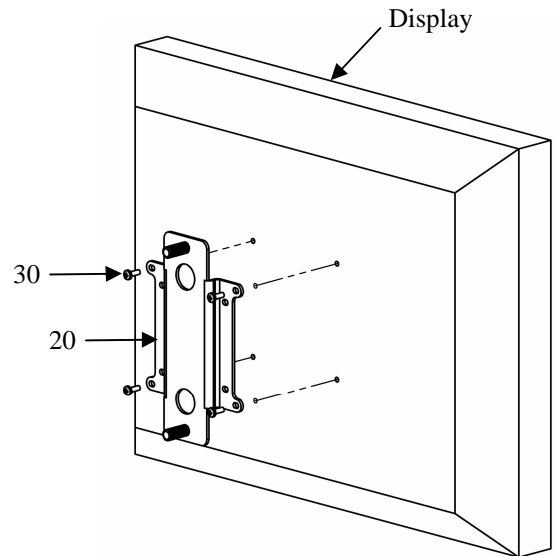

Figure 2. Flush Mount the Adapter Bracket
1. Place adapter bracket (20) over four mounting holes on the display. See Figure 2.
2. Secure the adapter bracket (10) onto the display using four M4 x 12 pan head cap screws (30).